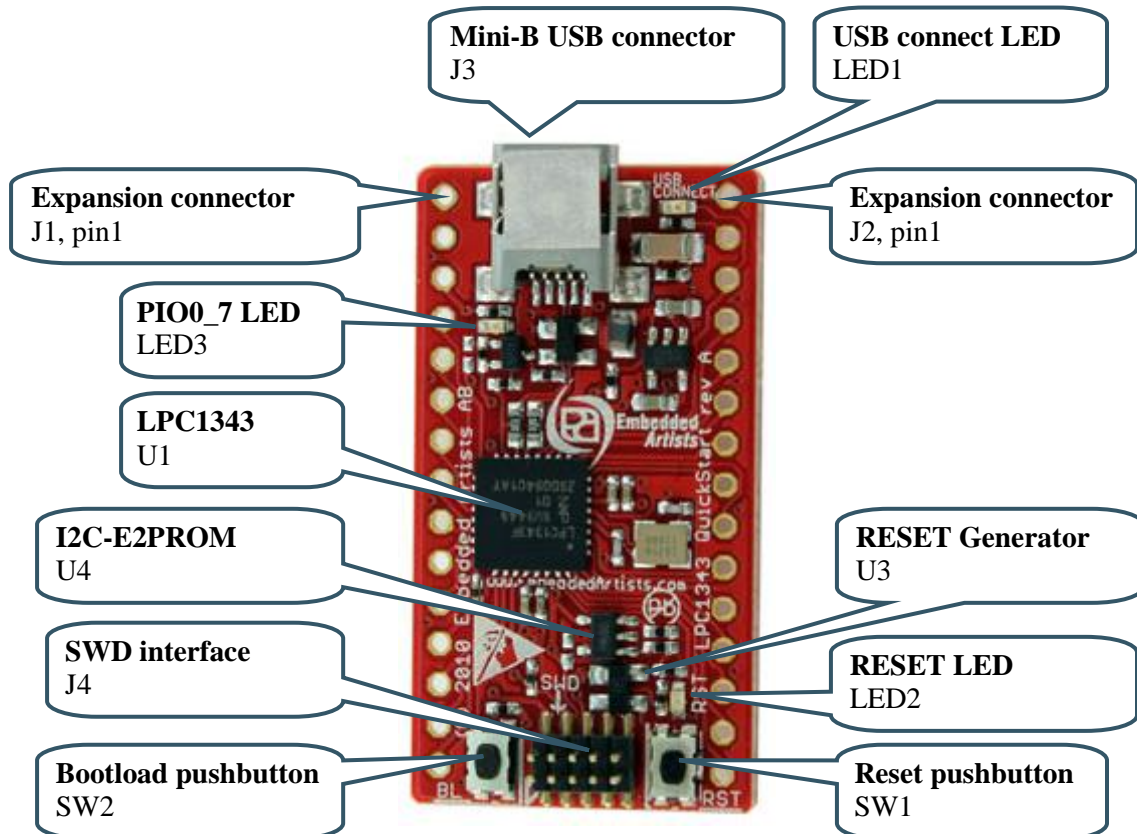

Figure 2 – Main Components on LPC1343 QuickStart Board
There are two expansion connectors, J1 and J2. They both have 15 positions and are placed at the board edges. See *Figure 2* on page 13 for details about J1 and J2 placement on the board. All programmable pins of the LPC1343 are available on the expansion connectors; see the table below for details.
Figure 2 below illustrates where the main components in the design can be found on the board.
1. Press both the bootstrap push-button (SW2) and the reset push-button (SW1). See *Figure 2* on page 13 for details about where to find the two push-buttons.